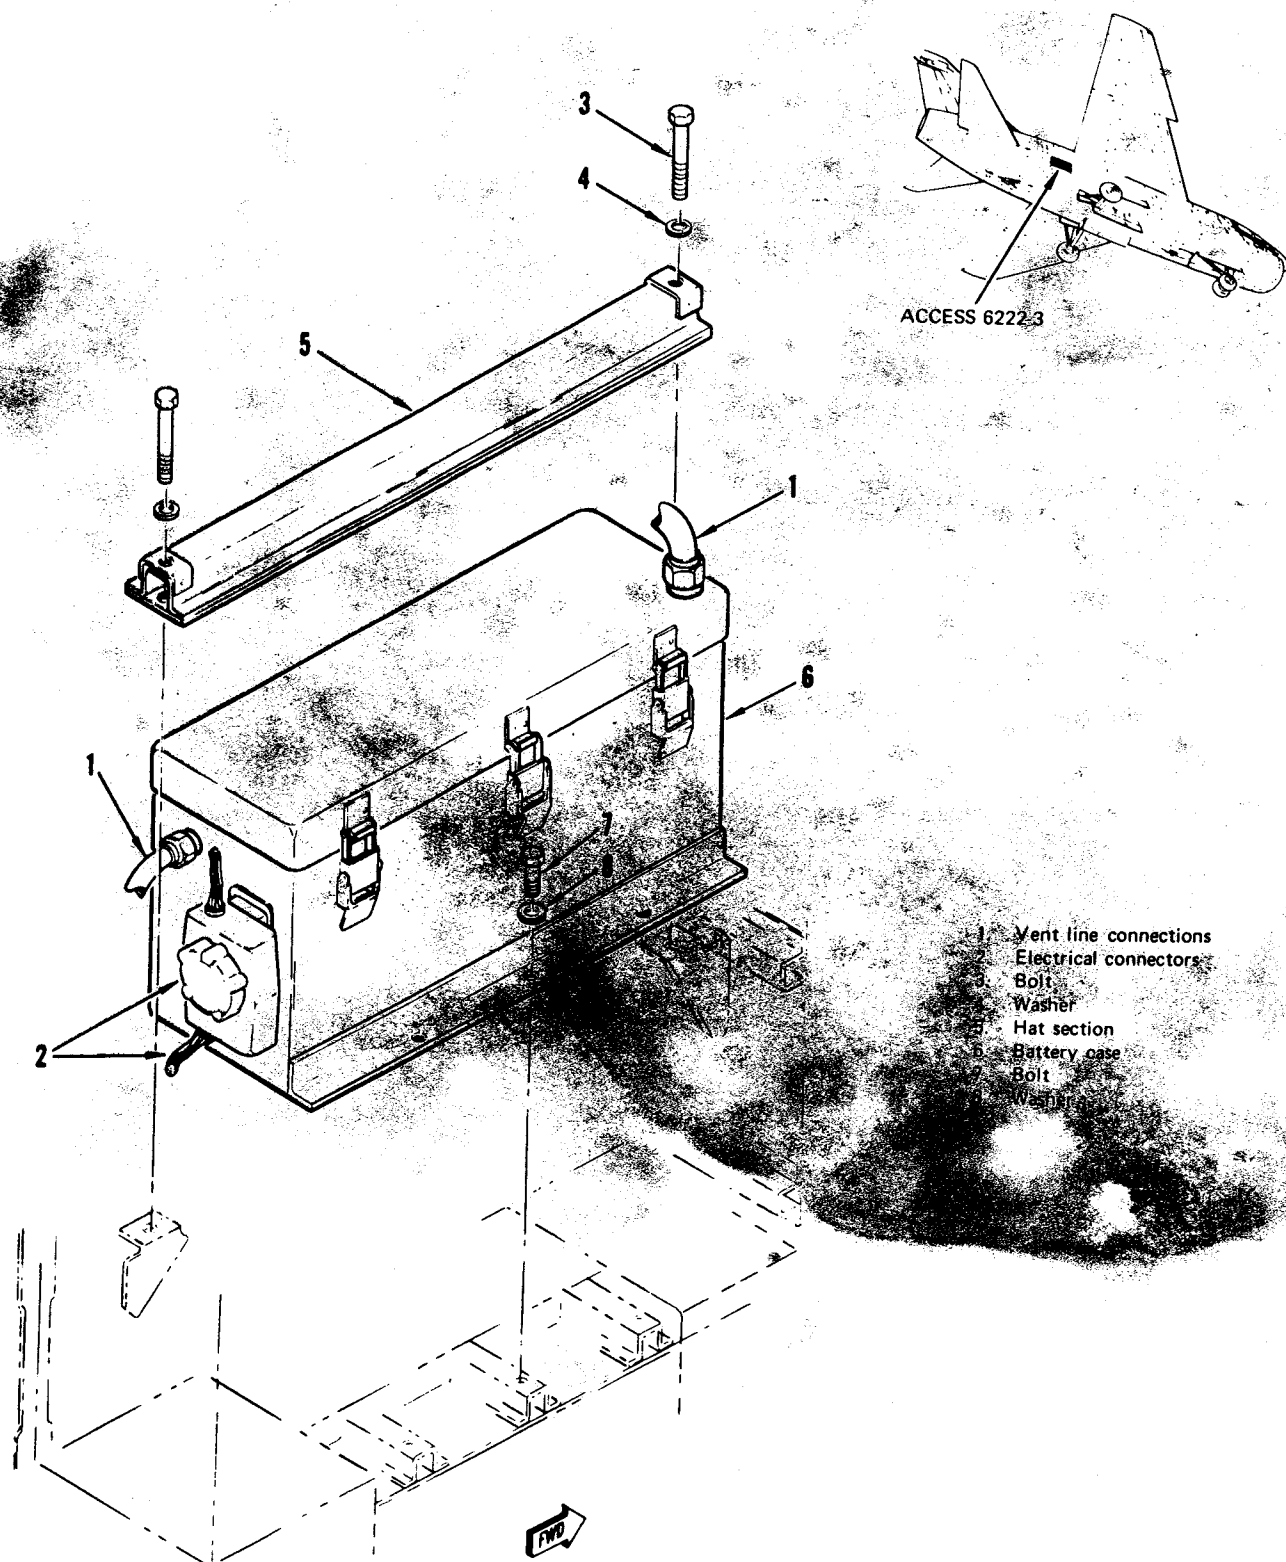

Figure 4-5. Battery Removal and Installation (Airplanes Before T.O. 1A-7-551)
**4-18. REMOVAL. (See figure 4-5.)**
- c. Disconnect vent line connections (1) from battery case.
- d. Disconnect electrical connections (2) from battery receptacles.
- e. Remove two bolts (3) and washers (4) securing hat section (5) and remove hat section from top of battery case (6).
- f. Remove three bolts (7) and washers (8) securing base of battery to compartment shelf.
**4-19. INSTALLATION. (See figure 4-5.)**
b. Install three bolts (7) and washers (8) at base of battery to secure battery to compartment shelf.
c. Install hat section (5) on top of battery case (6) and secure with two bolts (3) and washers (4).
d. Connect vent line connections (1) to battery case.